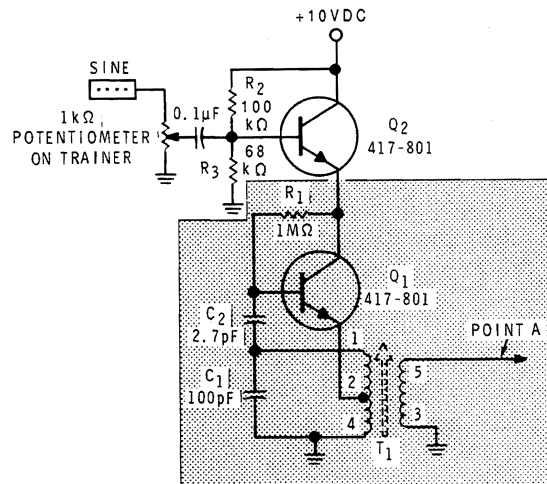

Figure 7-23
- Turn off the Trainer. Modify the circuit as shown in Figure 7-23. Notice that the new circuitry is shown outside the shaded area.